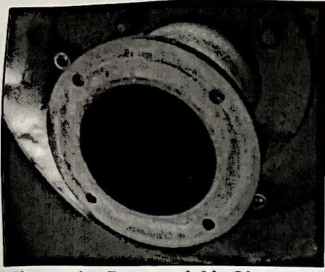

Figure 6 - Exposed Air Channel
Step #6 - Use a 5/32" allen wrench to remove the four (4) screws connecting the blower to the air channel. See Figure 6.